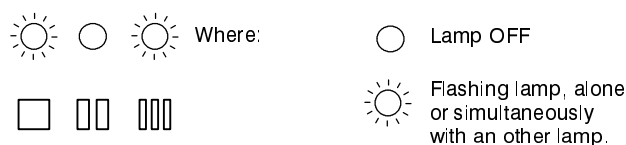

Fig. 44
- 7 Keep pressed the reset button C for about 5 seconds until the lock-out signal lamp D is switched OFF. The boiler runs in c.h. mode and the lamps E give the indication as in Fig. 44.